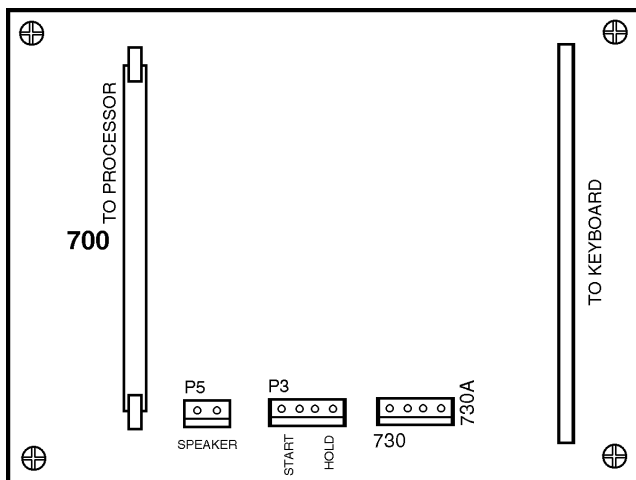

Fig. 4-10 Keyboard Interface board.
4. Disconnect all leads to the Keyboard Interface (KBIF) board. Ensure all cables are properly labeled for reconnecting later. Refer to Fig. 4-10 for locations.
7. Reconnect all cables to the KBIF board at their proper locations (refer to Fig. 4-10).